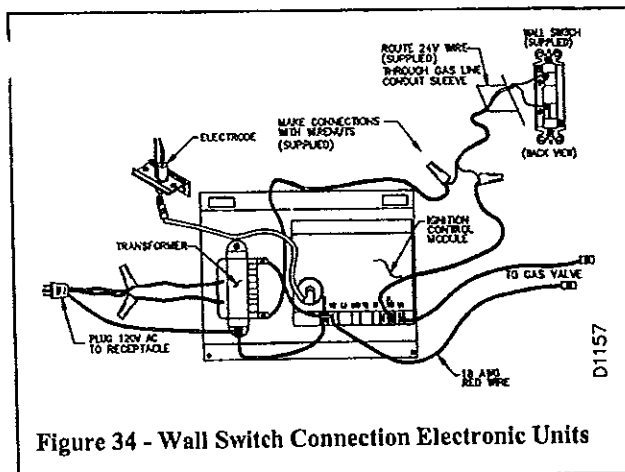
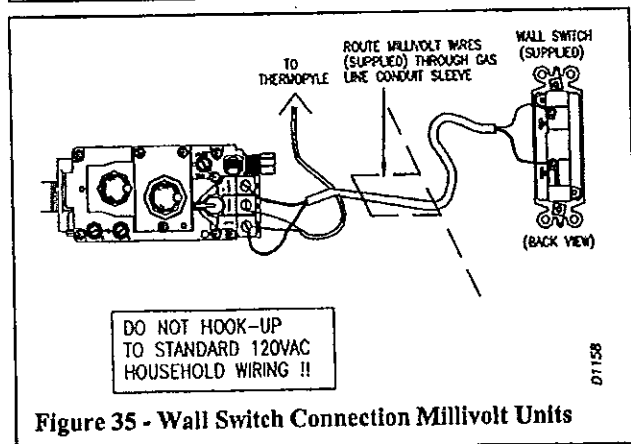

Figure 34 - Wall Switch Connection Electronic Units
Figure 35 - Wall Switch Connection Millivolt Units
The DVF42TE series uses a 24 VAC current supplied from a transformer mounted on the ignition module and is prewired for easy connection to a wall switch (see Figure 34). The DVF42T versions use a self-generated millivolt current that allows you to activate the gas control valve directly, without the use of normal household electricity (see Figure 35). Both versions are supplied with a wall switch kit for ready connection and mounting.
2. If a wall switch was installed it must be removed from the ignition control circuit for the remote to work properly. Remove the wirenuts from the switch connection at the ignition control module. Using one of the wirenuts, connect the transformer (blue) wire to the remaining wire connected to the control terminal marked (P. SW) (see Figure 34 on page 15).